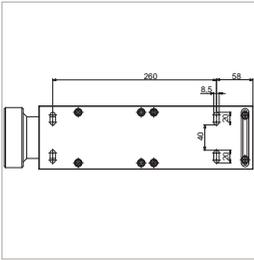

Figure 1
- ▶ Fasten the mounting onto the mounting holes on the fueling station (*Figure 1*).